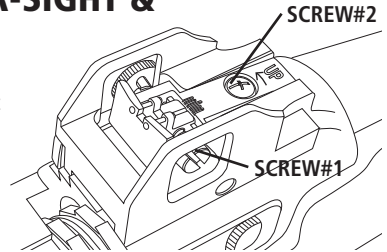

Fig. 4
- If the shot is deflected to the left of the target, turn the SCREW#1 clockwise. (Fig. 4)
- If the shot is deflected to the right of the target, turn the SCREW#1 counter-clockwise. (Fig. 4)
- If the shot is too high, turn SCREW#2 clockwise. (Fig. 4)
- If the shot is too low, turn SCREW#2 screw counter-clockwise. (Fig. 4)